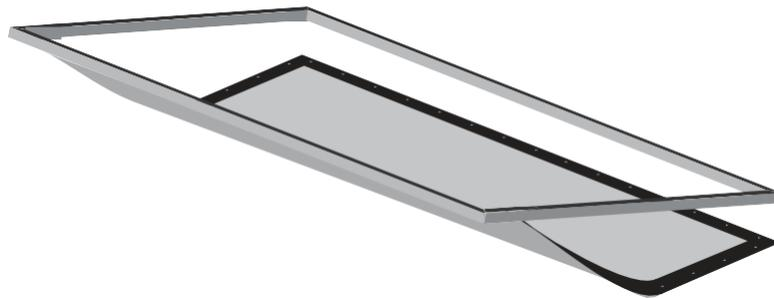

Figure 17: Attaching Remaining Snaps
6. Lift the frame to a vertical position to finish attaching the sides and bottom row of the snaps (see Figure 17).